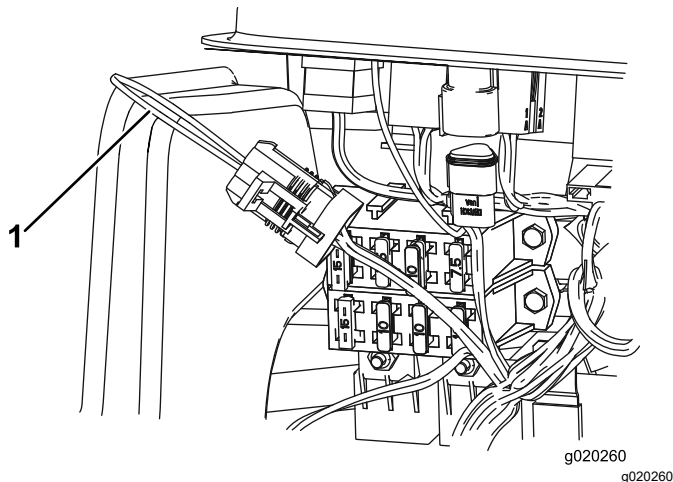

Figure 38
3. Locate the wire harness and loop-back connector (Figure 38).